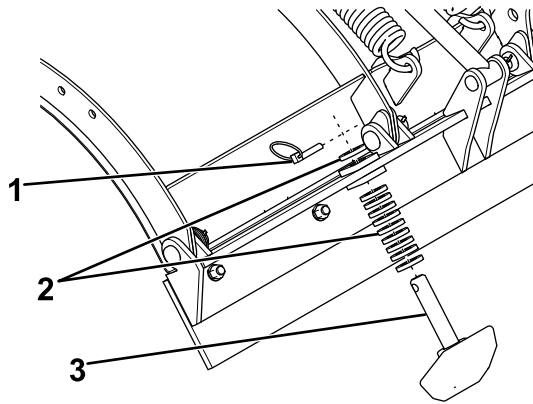

Figure 3
1. Slide a washer onto each of the plow shoes (Figure 3).
2. Slide the plow shoes into the holes on the bottom of plow (Figure 3).
3. Slide another washer onto the plow shoes and secure them with a quick pin (Figure 3).